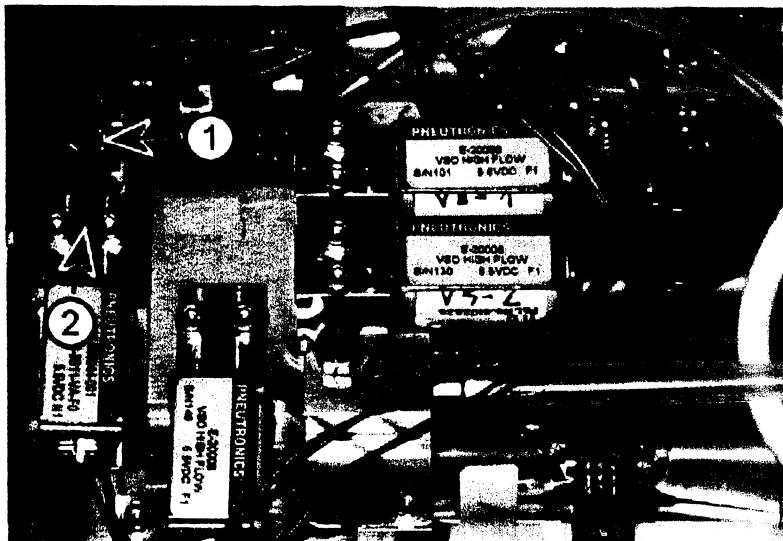

Fig. 13 Valve V1 mounting
4. Remove the connector Fig. 13/1 of valve V1 from the sensor PCB.
5. Remove the fixing screws Fig. 13/2 of valve V1.